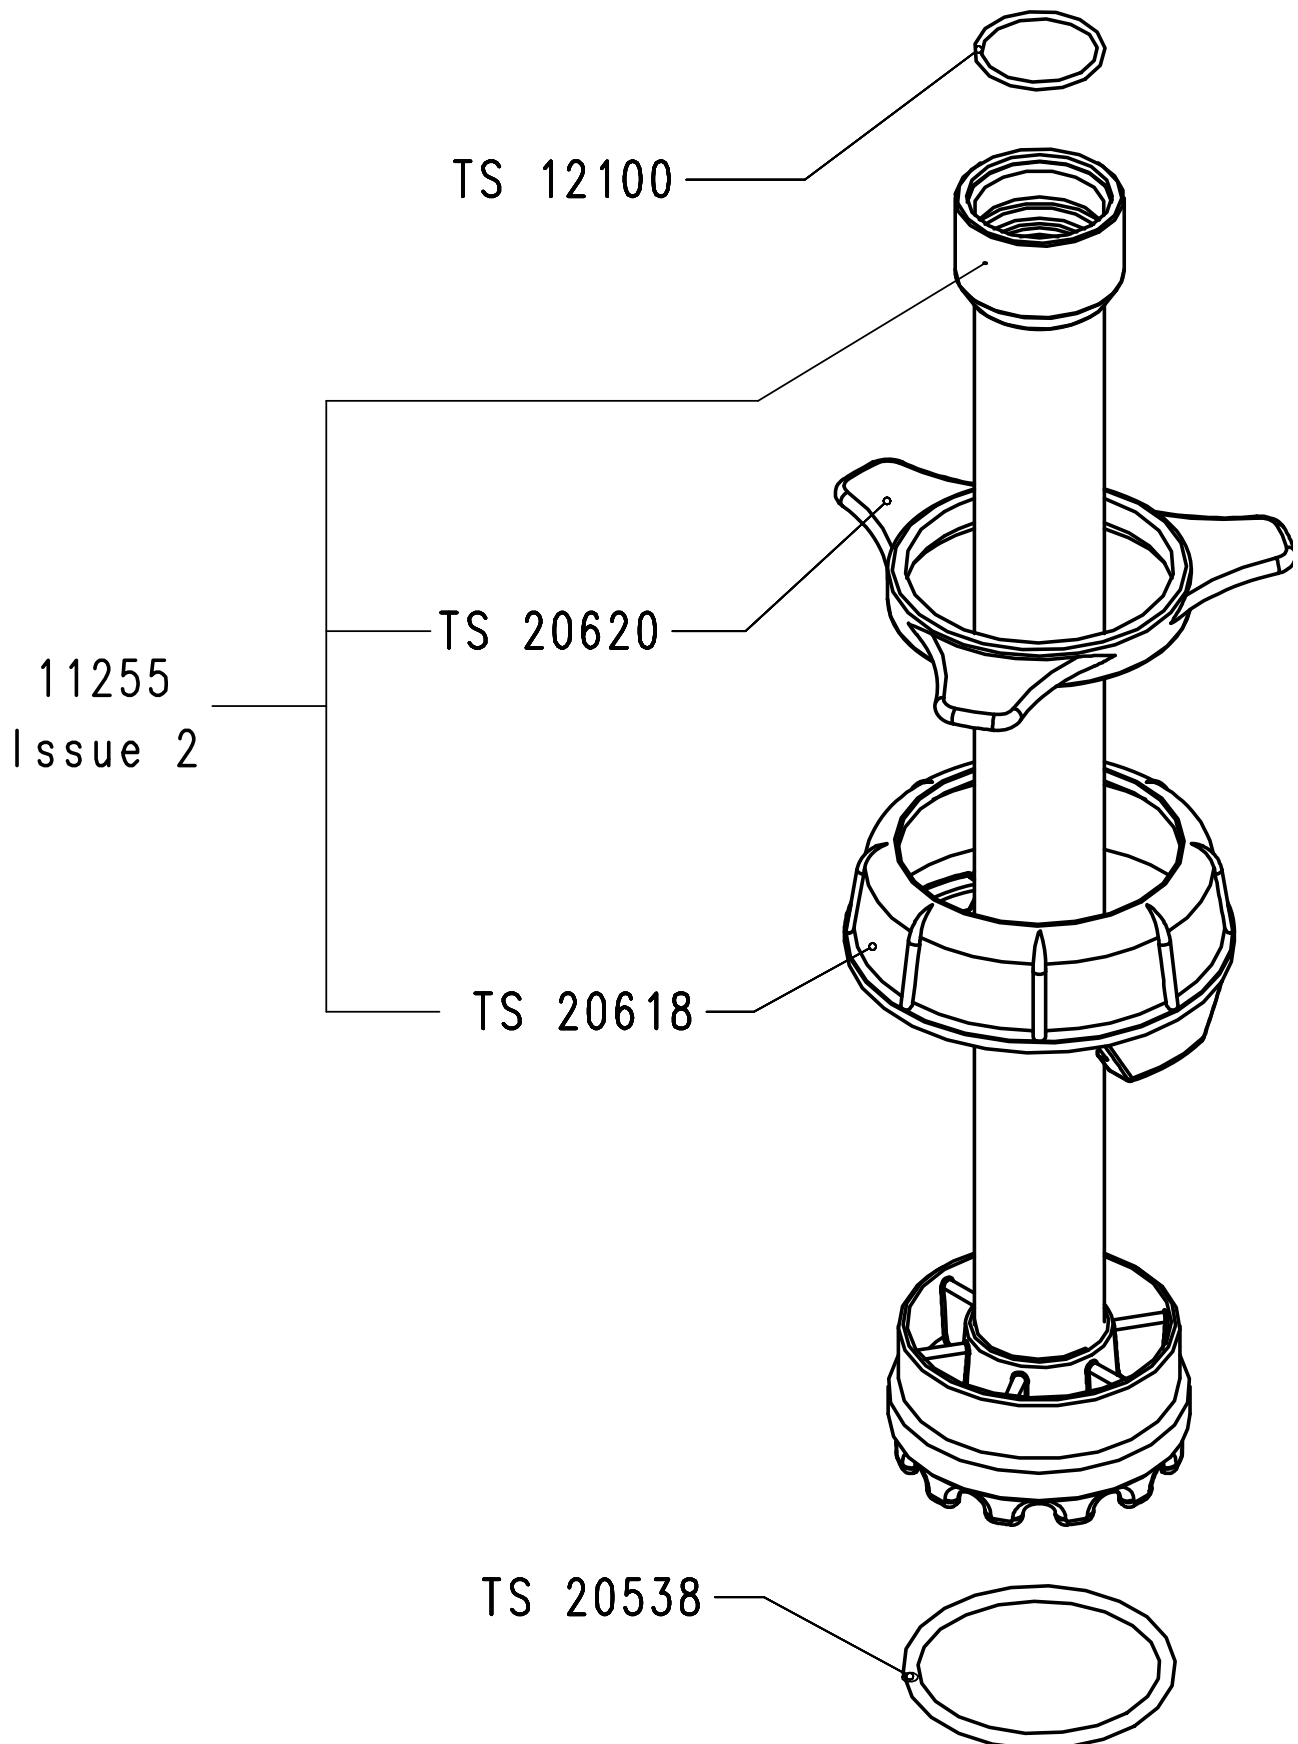

Figure 13-6: storage tube SS1-Q2 TS 10187, details
- Figure 13-6: storage tube SS1-Q2 TS 10187, details